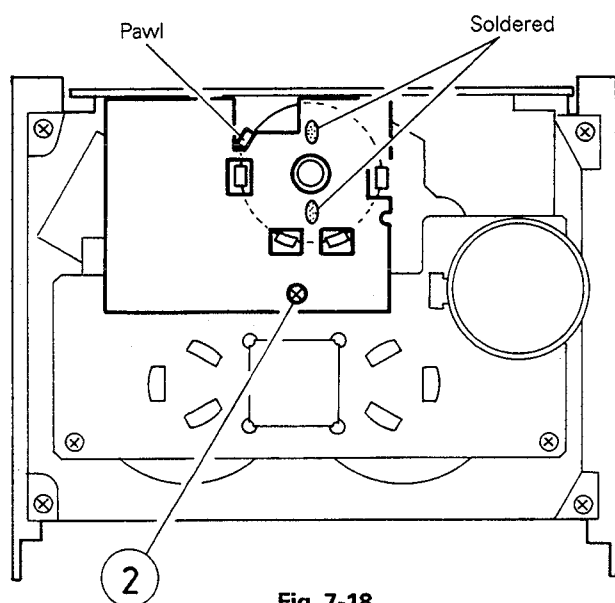
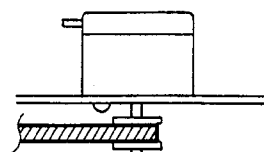
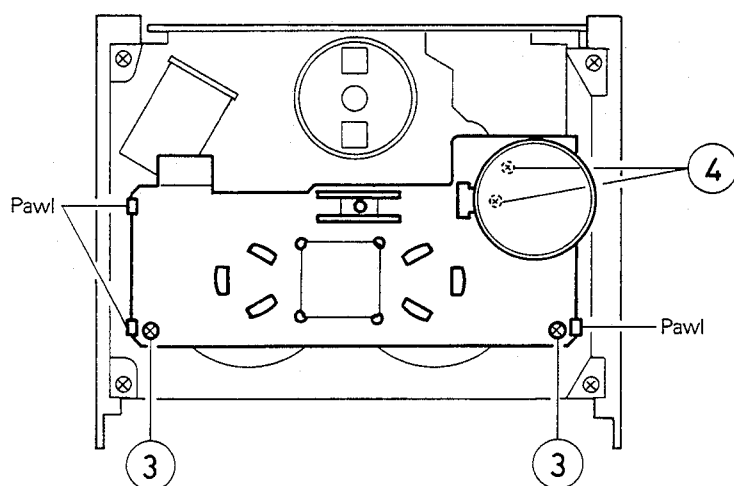

Fig. 7-18
Fig. 7-20
Fig. 7-19
■ **FM bracket/Capstan motor assembly** (Fig. 7-18, Fig. 7-19)
2. Remove two screws ② retaining the FM bracket and capstan motor assembly together with.
3. Remove four fixing screws ③ and disengage five pawls, and the FM bracket and capstan belt can be removed.
4. Remove two screws ④ retaining the capstan motor to the FM bracket.
5. For re-engaging the capstan belt, refer to Fig. 7-20.
■ **Actuator motor assembly** (Fig. 7-20, Fig. 7-21)